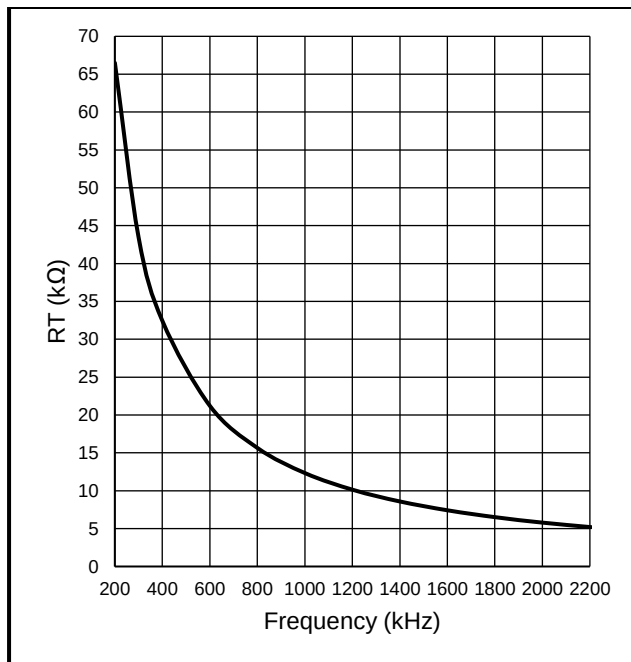

Figure 10-3 RT and Switching Frequency Relationship
A resistor from RT to AGND is needed to set target switching frequency. **Equation (4)** and **Figure 10-3** can be used to determine the resistance. If synchronization to an external clock is needed, do not apply the signal to RT pin. Instead, EN/SYNC can be used for external clock synchronization.